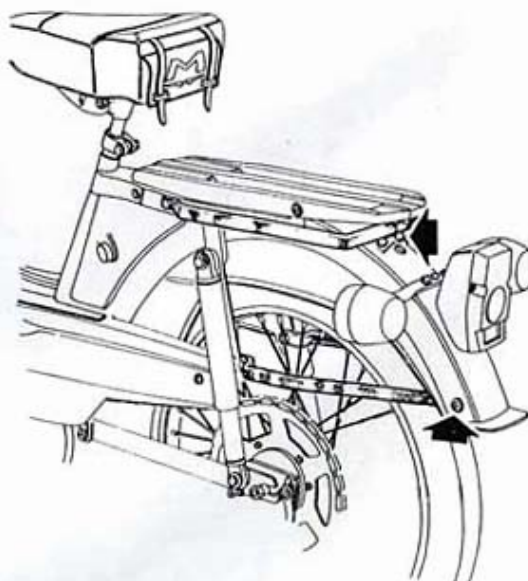

Fig. 4
- Remove the bolts securing the luggage carrier rack to the fender (10mm socket and wrench, fig. 4).
- Remove the rear mounting screws (Philips head) of the luggage rack (fig. 4).